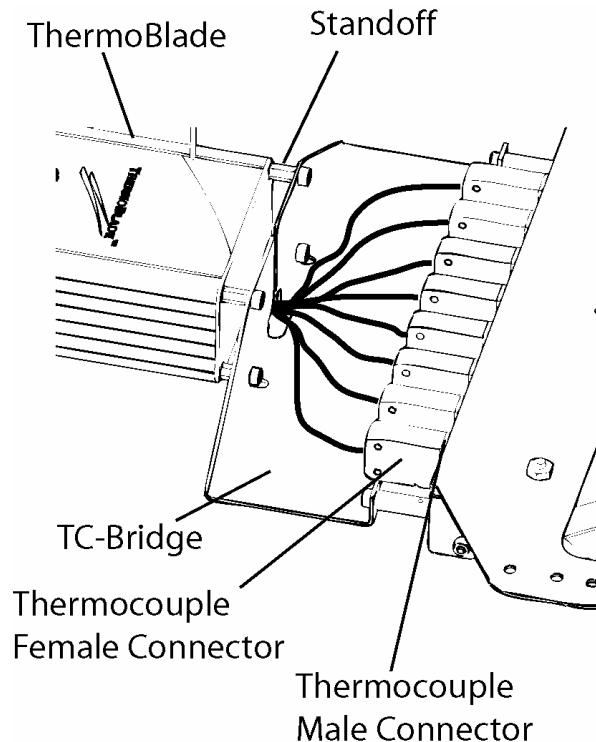

Figure 12. Connecting ThermoBlade with TC-Bridge
2. On the end of the ThermoBlade that has the thermocouple probe exit hole, replace four flat-head screws holding the ThermoBlade end plate with four 0.375 inch long male / female hex standoffs as shown in Figure 12.